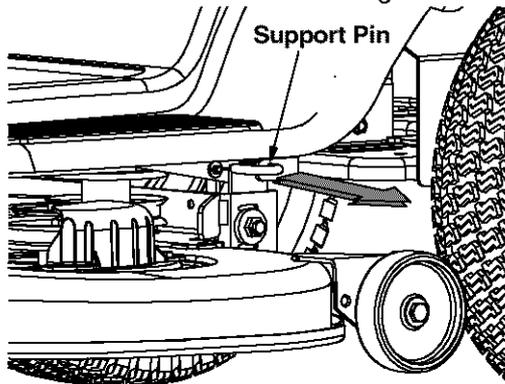

Figure 8
- Looking at the cutting deck from the left side of the tractor, locate the deck support pin on the rear left side of the deck. See Figure 8.
- Pull the deck support pin outward to release the deck from the deck lift arm. See Figure 8.